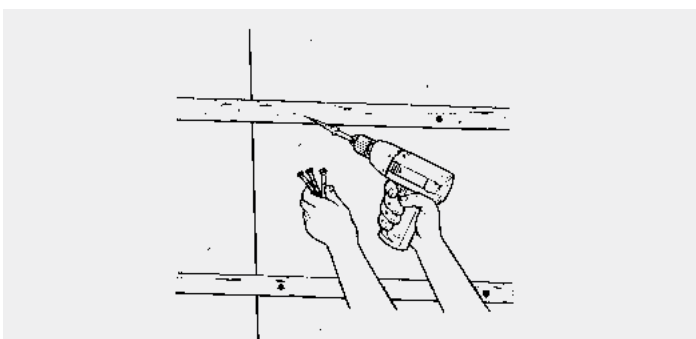

Figure 5.
- Install 3/4" furring strips either 16" or 24" on center, vertically or horizontally, using mechanical fasteners. With electric drill and masonry bit, drill holes through the furring strips 1-1/2" into the block wall. See Figure 5. Concrete fasteners should be longer than the insulation board thickness. (To secure strips to wall, use three or four screws per 8' length.)